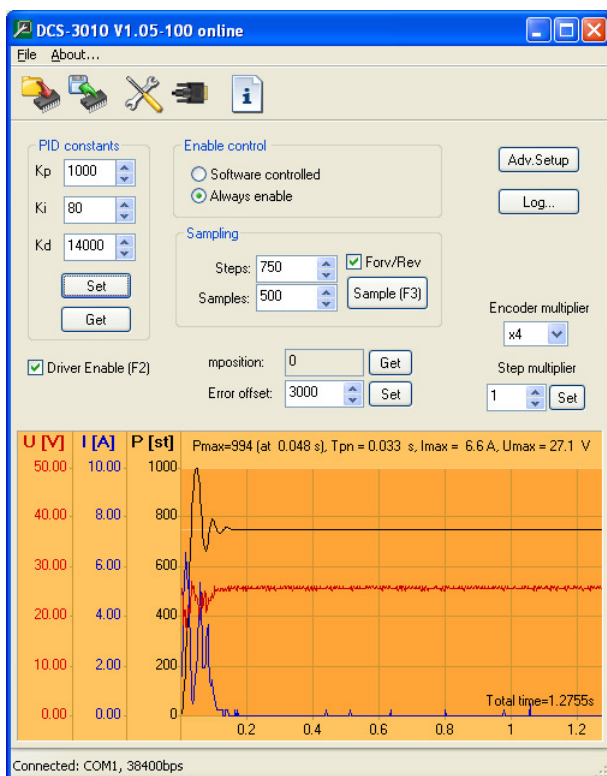

Figure 10.3
STEP 3: Gradually increase the constants K_p and K_i to the response as shown in Figure 10.3. Here it should be noted that the constant K_i is much smaller compared to the other two constants.